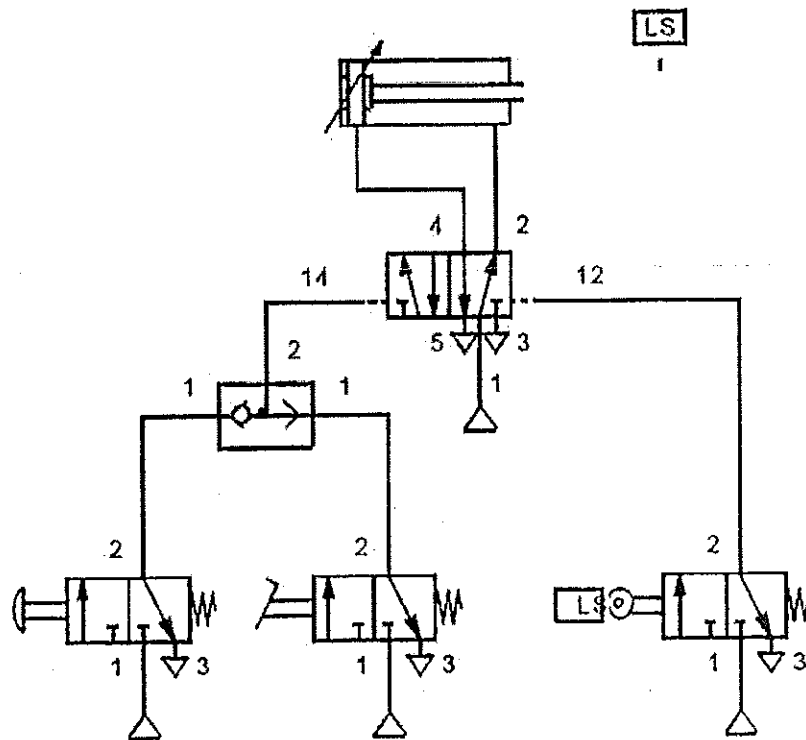

Figure Q06(b)
- b) Explain the operation of the 5/2 way directional control valve in the pneumatic circuit given below in **Figure Q06(b)**.